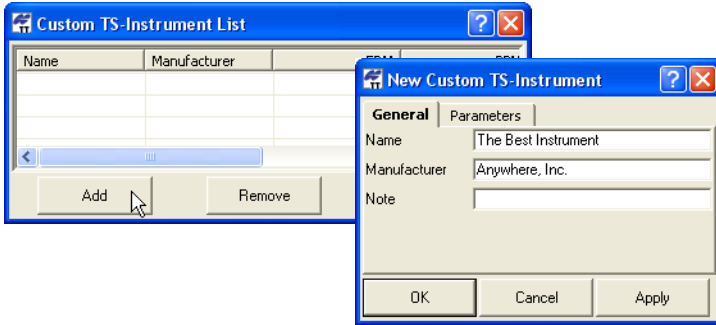

Figure 5-97. New Custom TS Instrument
3. Click **Add** (Figure 5-97). To remove an instrument, click on the TS instrument's row and click **Remove**.
4. On the *General* tab, edit the *Name*, *Manufacturer*, and *Note* fields (Figure 5-97). Then click **Apply** to save the information.